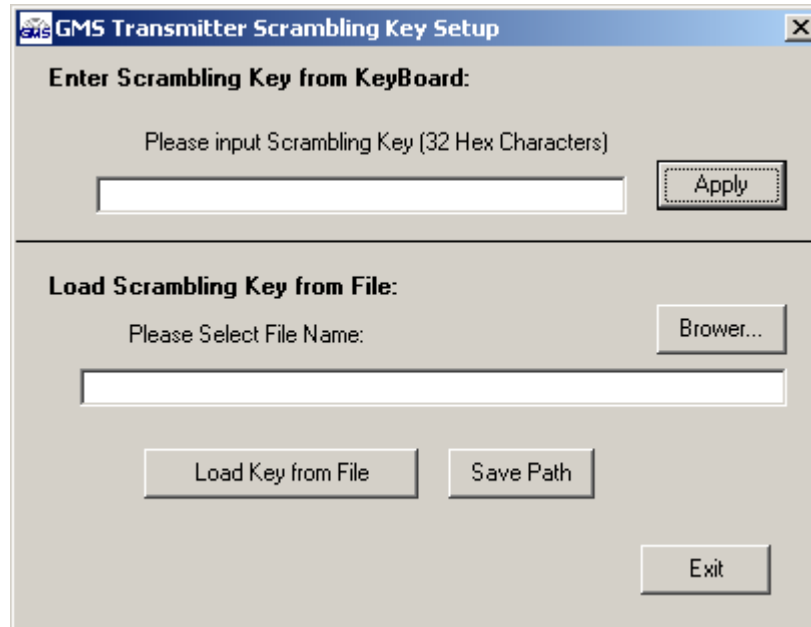

Figure 5 Scrambling Mode Key Setup
- **Scrambling Key (Option)** – This menu displays the following (see Figure 5):